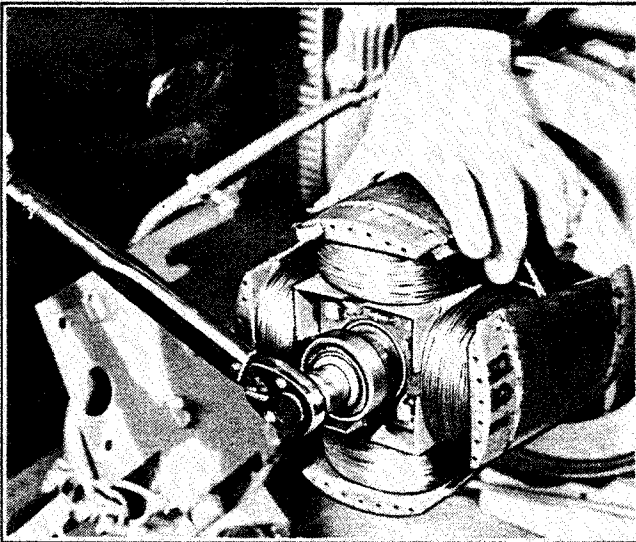

Figure 8-14. Torquing Thru-Bolt
- Slide rotor onto stub shaft and hand-tighten rotor thru-bolt. Attach a strap wrench to rotor and torque thru-bolt to 50 ft.lbs. (68 Nm). See Figure 8-14.